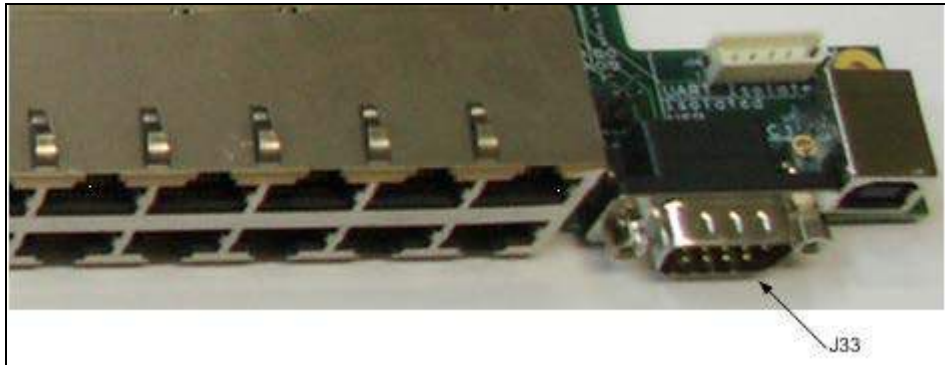

Figure 11: Isolated RS232
**7. Isolated RS232** (see Figure 11)